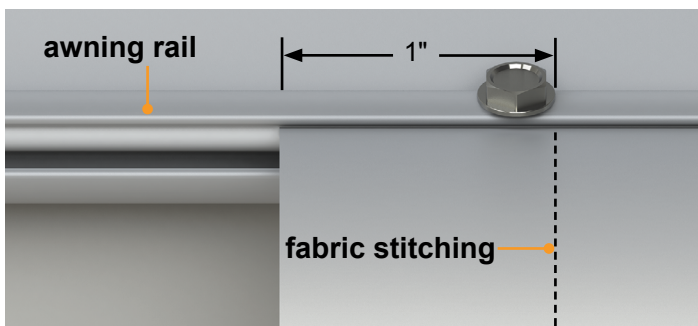

Fig.8
2. Secure the fabric in the awning rail no more than 1" inside the edge of the fabric on both ends using a #6 x 1/2" hex head screw. Install the screw down through the awning rail into the fabric and the polycord (Fig.8).